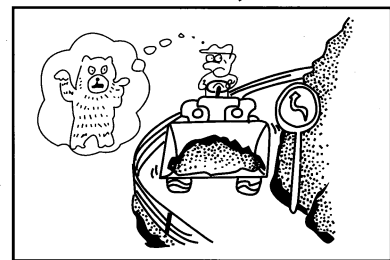

Figure1-55
- When the visibility is limited, the speed should be reduced. Sound the bugle to remind surrounding people and avoid of savage operation. (Figure 1-55)